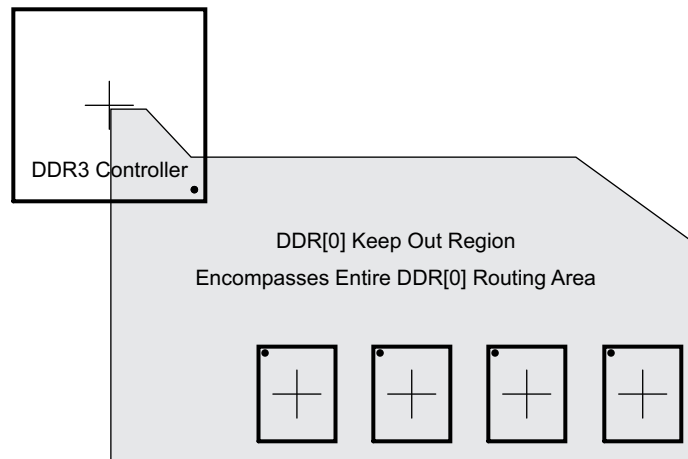

Figure 8-48. DDR3 Keepout Region
- (2) Measurements from center of processor to center of DDR3 device.
- (3) Minimizing X1 and Y improves timing margins.
- (4) w is defined as the signal trace width.
- (5) Non-DDR3 signals allowed within DDR3 keepout region provided they are separated from DDR3 routing layers by a ground plane.
The region of the PCB used for DDR3 circuitry must be isolated from other signals. The DDR3 keepout region is defined for this purpose and is shown in Figure 8-48. The size of this region varies with the placement and DDR routing. Additional clearances required for the keepout region are shown in Table 8-52. Non-DDR3 signals should not be routed on the DDR signal layers within the DDR3 keepout region. Non-DDR3 signals may be routed in the region, provided they are routed on layers separated from the DDR signal layers by a ground layer. No breaks should be allowed in the reference ground layers in this region. In addition, the 1.35-V/1.5-V DDR3L/DDR3 power plane should cover the entire keepout region. Also note that the DDR3 controller's signals should be separated from each other by the specification in item 5 (see Table 8-52 for item 5 specification).